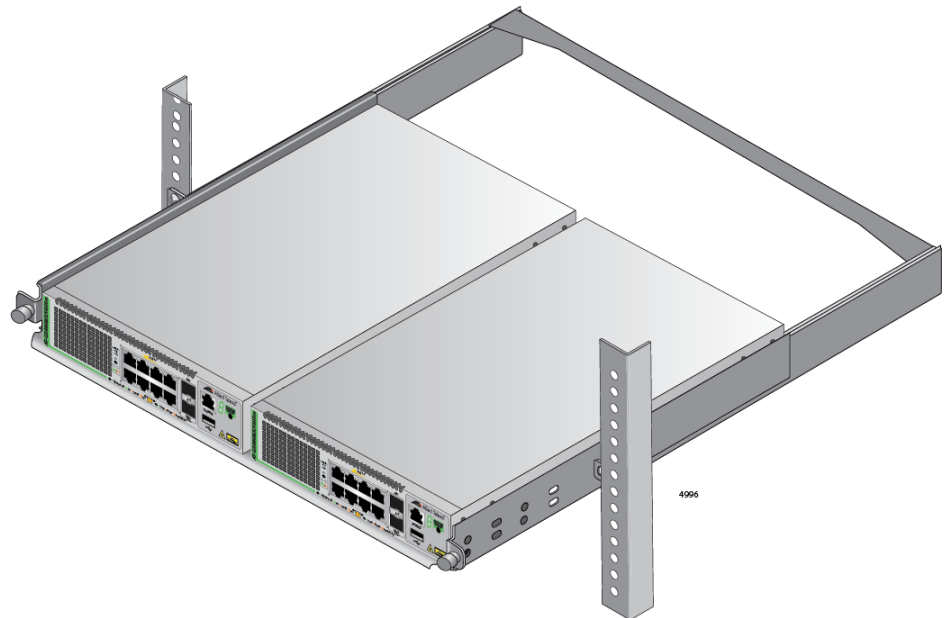

Figure 48. Sliding in the Bracket
7. Slide in the bracket tray. Refer to Figure 48.